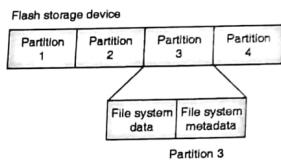

Fig. 13.9.1 : Flash device partitions and file system
- Fig. 13.9.1 shows an abstract view of the partition in a flash drive its file system.